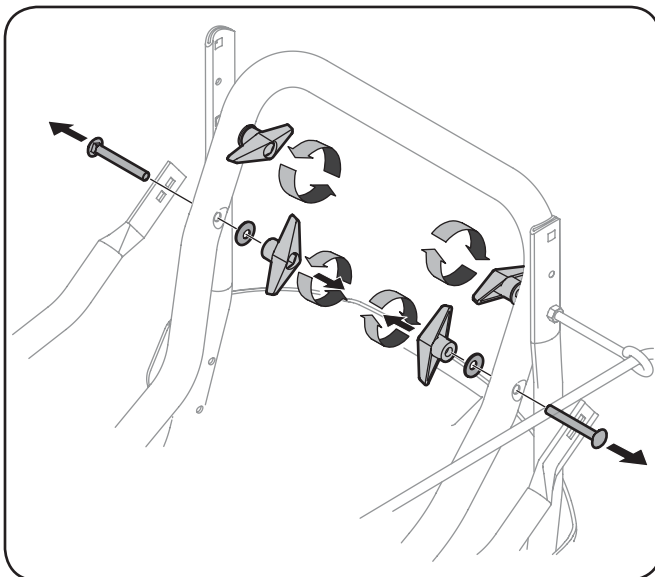

Figure 3-1
2. Remove the lower wing nut, Belleville washer and carriage bolt from each side of the upper handle, as seen in Fig. 3-1.